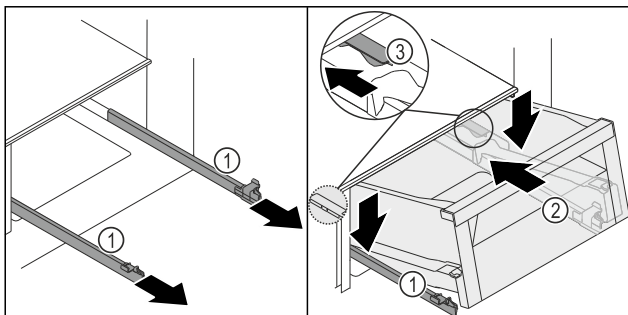
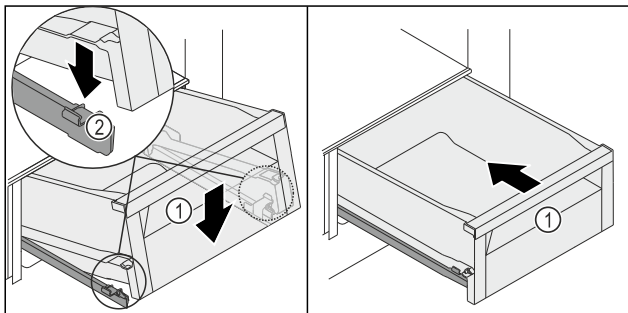

Fig. 104
Fig. 105
- Hold the rails Fig. 104 (1) firmly and place the drawer Fig. 104 (2) on the rails Fig. 104 (1) from above behind the stopper Fig. 104 (3).
- Slide the drawer Fig. 104 (2) backwards on the rails Fig. 104 (1) as far as it will go.
- Lower the drawer Fig. 104 (2) at the front so that the drawer slides into the clamp Fig. 105 (2) on the left and right.
- The drawer Fig. 105 (1) locks in audibly.
- Push in the drawer Fig. 105 (1).